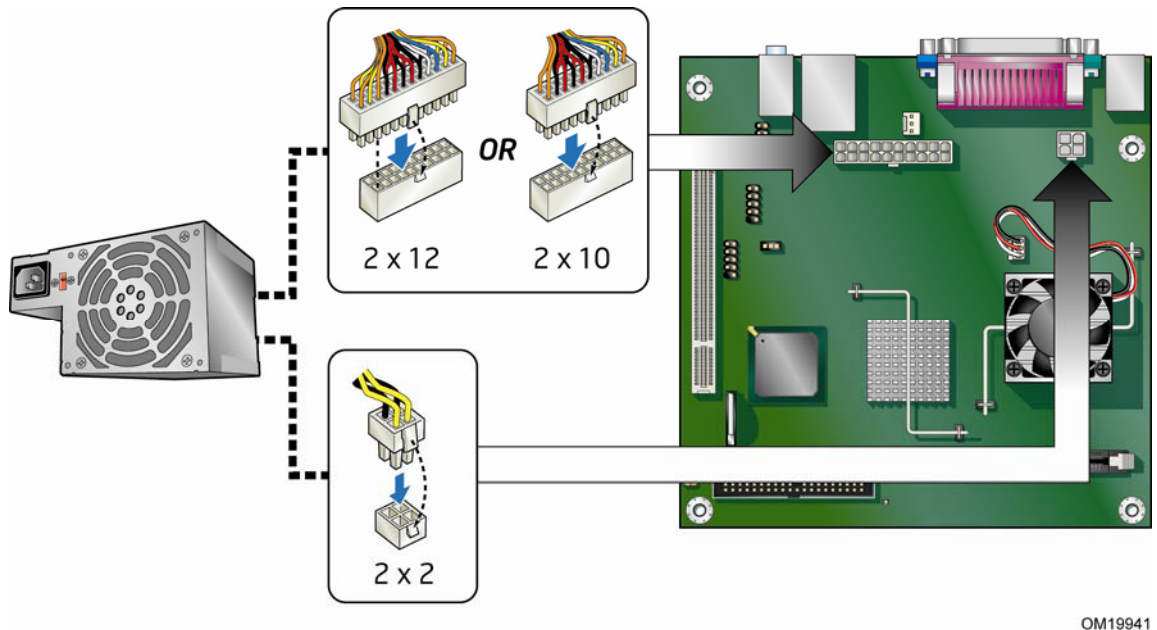

Figure 12. Connecting a 2 x 10 or 2 x 12 Power Supply Cable
Figure 12 shows the location of the power connectors.
2. Connect the 12 V processor core voltage power supply cable to the 2 x 2 connector (Figure 12).
3. Connect the main power supply cable (2 x10 or 2 x 12) to the 2 x 10 connector (Figure 12).